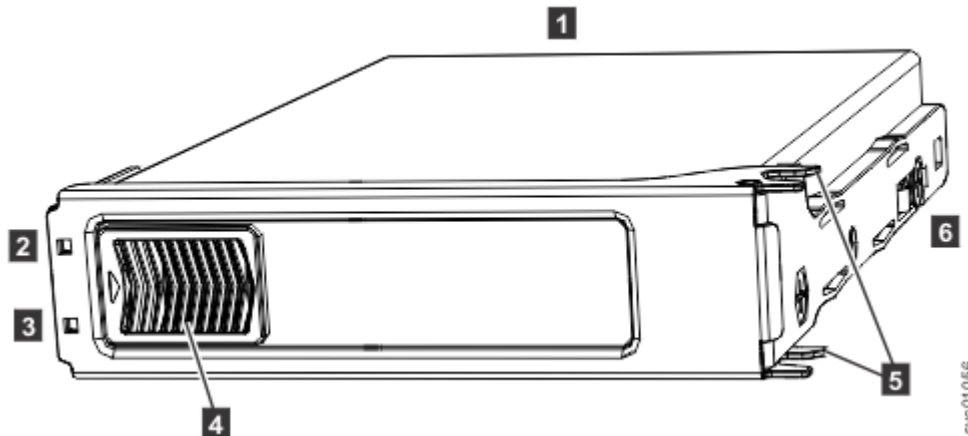

Figure 110. Drive assembly
The 5U expansion enclosure supports 92 drives. Figure 110 on page 94 shows an example of a drive assembly.
**Note:** When a drive is faulty, the amber fault indicator is lit (3 in Figure 110 on page 94). Do not replace a drive unless the drive fault indicator is on or you are instructed to do so by a fix procedure. When lit, the green indicator shows that activity is occurring on the drive.